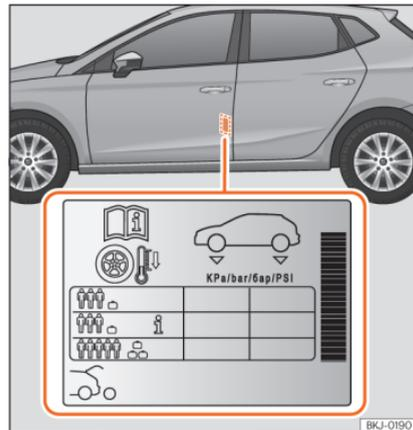

Fig. 276 Location of the tyre pressure sticker.
- Adjust tyre pressure to the load being carried by the vehicle »» Fig. 276.
The tyre inflation pressures are listed on a sticker on the rear of the front left door frame »» Fig. 276.
Depending on the vehicle, tyre pressure can be adjusted to medium load to improve driving comfort (tyre pressure **i** »» Fig. 276). When driving with comfort tyre pressure fuel consumption may increase slightly.
The tyre pressure must be adjusted according to the load the vehicle is carrying. If the vehicle is going to carry the maximum load, the tyre pressure should be increased to the maximum value indicated on the sticker »» Fig. 276.
pressure of 4.2 bar as indicated on the tyre pressure label »» Fig. 276.
- The driver is responsible for ensuring that all of the vehicle tyres are correctly inflated to the right pressure. The recommended tyre pressure is indicated on the label »» Fig. 276.
- When the tyres are cold, tyre pressure should be that indicated on the label »» Fig. 276.